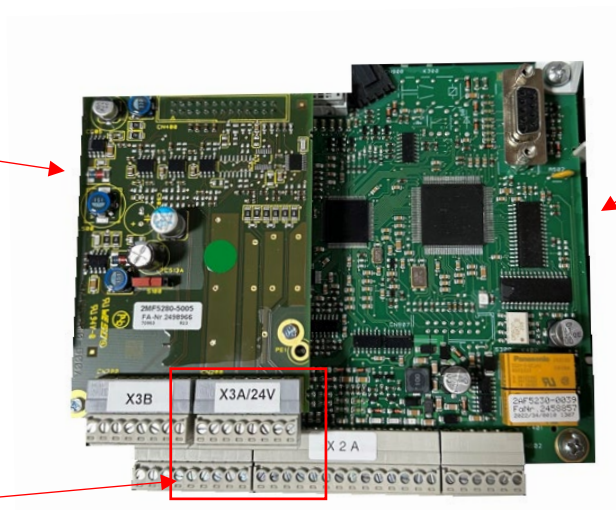

Figure 15: KEB Control Board & Incremental Encoder Strip
- If using an induction motor, connect the encoder to the X3A terminal block on the encoder board in the KEB Drive per Figure 15.